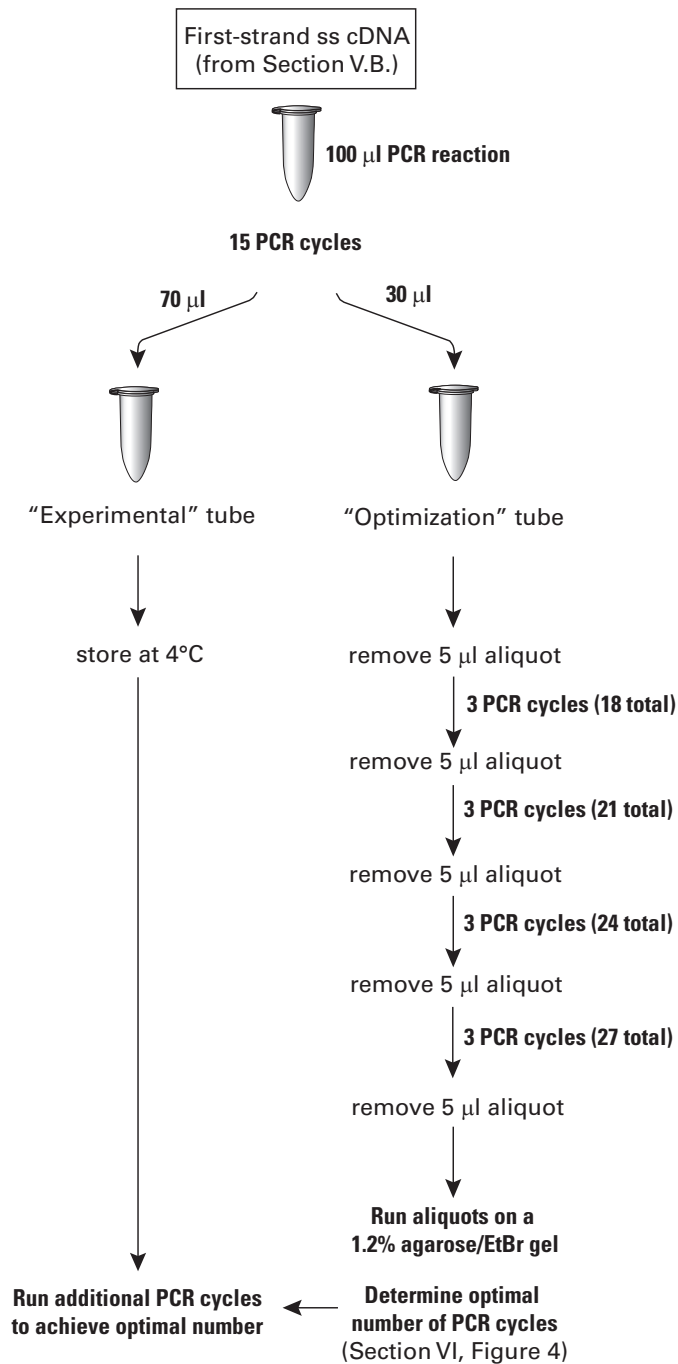

Figure 3. Optimizing PCR parameters for SMARTer cDNA synthesis.
8. Subject each reaction tube to 15 cycles, then pause the program. Transfer 30 μ l from each tube to a second reaction tube labeled "Optimization". Store the "Experimental" tubes at 4°C. Using the Tester PCR tube, determine the optimal number of PCR cycles (see Figure 3):
For the best results, you must optimize the PCR cycling parameters for your experiment, as described in Section V.C. (Figure 3). Choosing the optimal number of PCR cycles ensures that the ds cDNA will remain in the exponential phase of amplification. When the yield of PCR products stops increasing with more cycles, the reaction has reached its plateau. Overcycled cDNA can result in a less representative probe. Undercycling, on the other hand, results in a lower yield of cDNA. The optimal number of cycles for your experiment is one cycle fewer than is needed to reach the plateau. Be conservative: when in doubt, it is better to use fewer cycles than too many.